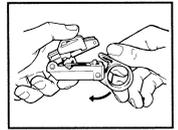

Figure 3
B. Open tool by rotating locking latch downwards (Fig. 3).